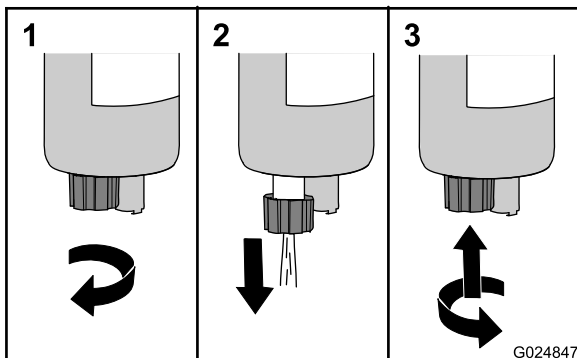

Figure 22
3. Rotate the drain valve counterclockwise approximately 3-1/2 turns until the valve drops down from the fuel-water separator (Figure 22).
4. Drain the water and sediment from the separator until clear fuel is visible (Figure 22).
5. Lift up the valve and turn it clockwise until it is hand tight (Figure 22).